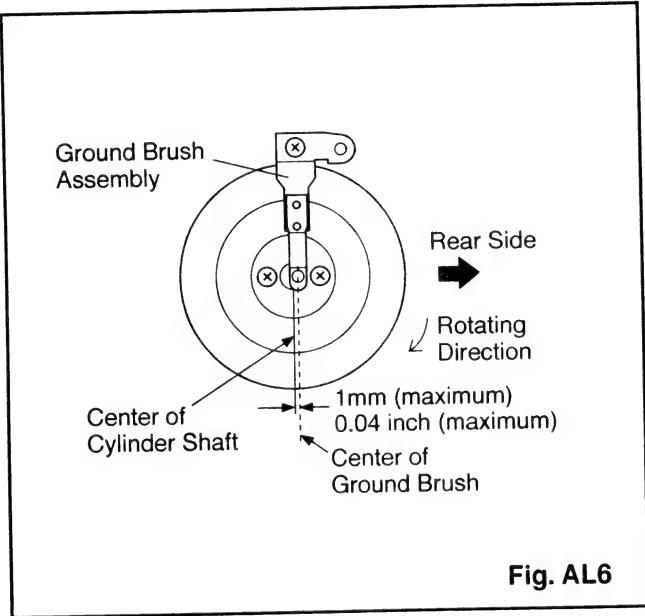

Fig. AL6
1. Check to see if Ground Brush Assembly is properly set in a position equal to or just less than 1mm (0.04 inch) (but never more than 1 mm or 0.04 inch), as measured from the center of the brush to the center of the Cylinder Shaft as shown in Fig. AL6.